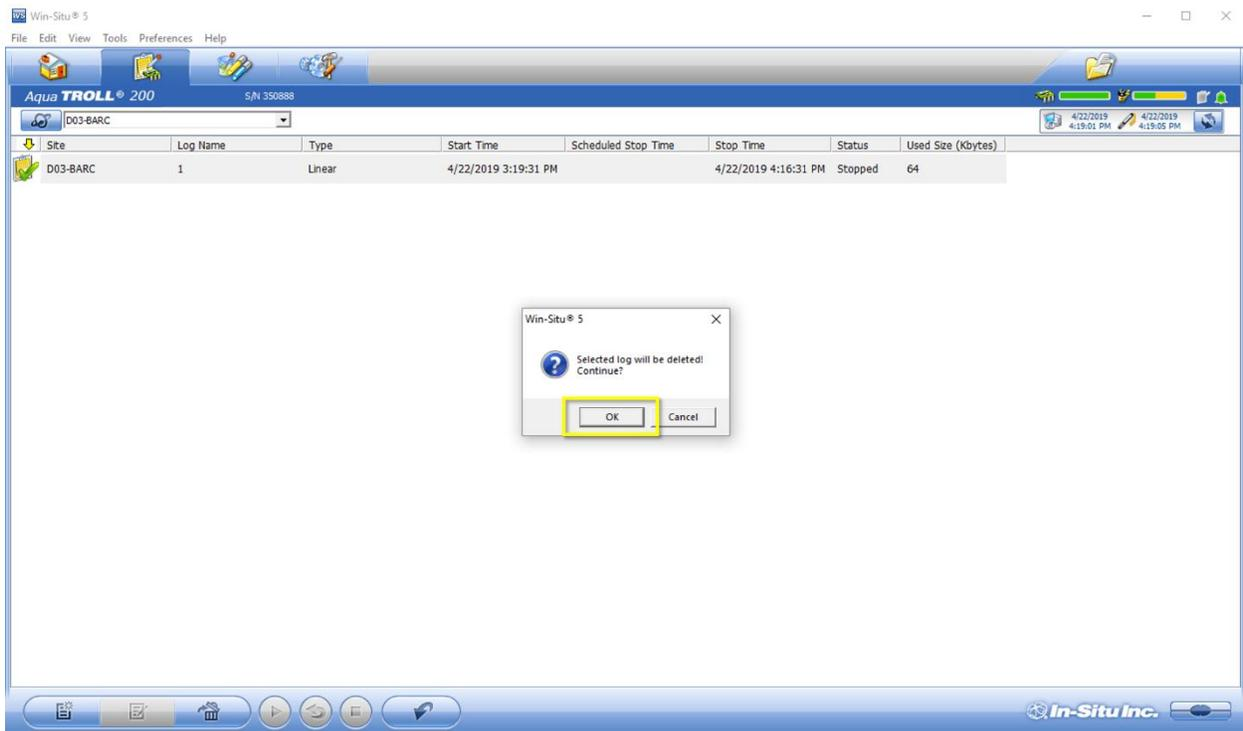

Figure 34. Click "OK" to Proceed when Prompted via the Pop-up Window
2. A pop-up window appears stating the "Selected log will be deleted! Continue?" Click "OK" to continue (Figure 34).